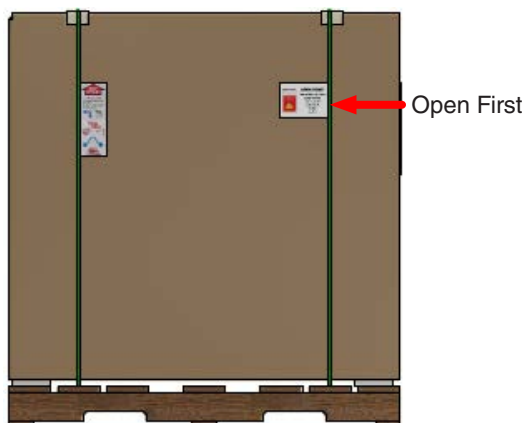

Figure 5.2a: This Crate has a Carton Banded to a Wooden Skid.
- All QUV and QCT testers are shipped in one of two types of crates (Figure 5.2a and Figure 5.2b).